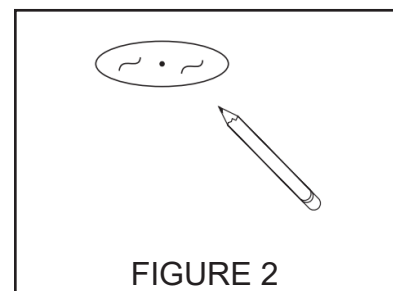

FIGURE 2
Step 1. Locate center of proposed opening on ceiling and use template to mark and accurately cut a 4-3/8" (for 4" housings), 5-1/2" (for 5" housings) or a 6-3/4" (for 6" housings) opening. (Fig. 2).